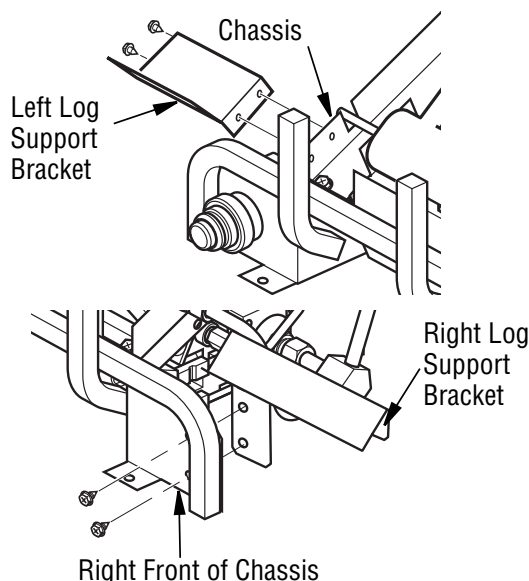

Figure 18 - Installing Log Support Brackets
1. Install left bracket to left side of chassis using 2 screws provided (*see Figure 18*).
2. Install right bracket to right front of chassis using 2 screws provided (*see Figure 18*). This bracket will also be used as remote control bracket if remote is installed.